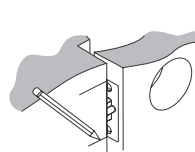

Figure 4a
- Mark center hole on edge of jamb even with the center of the deadbolt on door edge (Figure 4a).